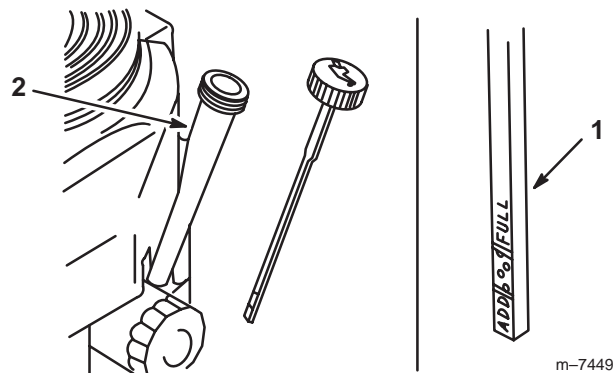

Figure 36
4. Clean around the oil dipstick (Fig. 36) so that dirt cannot fall into the filler hole and damage the engine.
5. Unscrew the oil dipstick and wipe the end clean (Fig. 36).
6. Slide the oil dipstick fully into the filler tube, but do not thread onto tube (Fig. 36).
8. Slowly pour approximately 80% of the specified oil (refer to Service Interval/Specification, page 30) into the filler cap (Fig. 36).